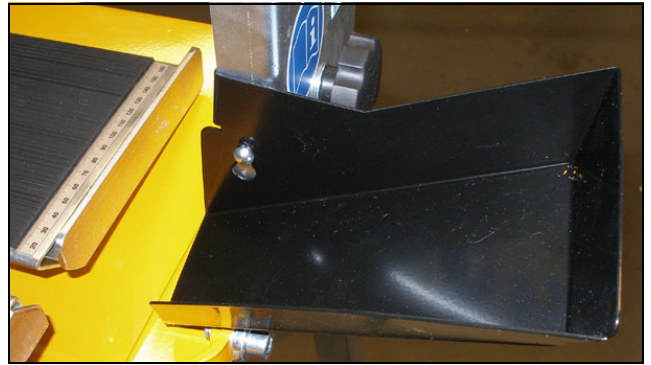

Fig. 3.7 Front splash guard attached
- Hook in the front splash guard (Fig. 3.7).